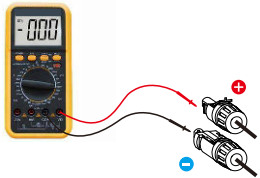
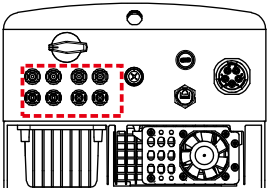

Figure 5.17 Multimeter measurement
Figure 5.18 Connect the DC Connectors to the Inverter
5. Measure PV voltage of DC input with multimeter, verify DC input cable polar (see figure 5.17), and ensure each string of PV voltage in range of inverter operation. Connect DC connector with inverter until hearing a slight clicking sound indicates connection succeed. (see figure 5.18)